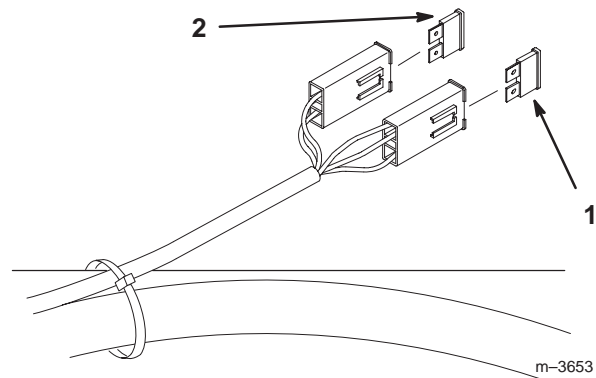

Figure 61
1. Raise the seat to gain access to the fuse holder (Fig. 61).
2. To replace the fuses, pull out on the fuse to remove it (Fig. 61).